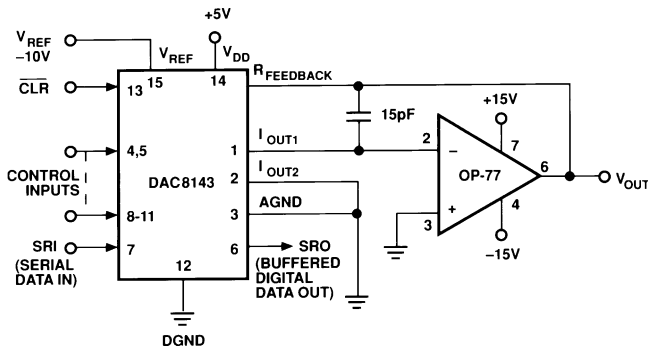

Figure 7. Unipolar Operation with High Accuracy Op Amp (2-Quadrant)
1. Phase compensation (see Figures 7 and 8).
The circuit shown in Figures 7 and 8 may be used with an ac or dc reference voltage. The circuit's output will range between 0 V and +10(4095/4096) V depending upon the digital input code. The relationship between the digital input and the analog output is shown in Table II. The  $V_{REF}$  voltage range is the maximum input voltage range of the op amp or  $\pm 25$  V, whichever is lowest.
Digital Input	Nominal Analog Output ( $V_{OUT}$ as shown in Figures 7 and 8)
1Nominal full scale for the circuits of Figures 7 and 8 is given by
2Nominal LSB magnitude for the circuits of Figures 7 and 8 is given by
ing mode as shown in Figures 7 and 8 is:
Figures 7 and 8). The amplifier selected should have a low input